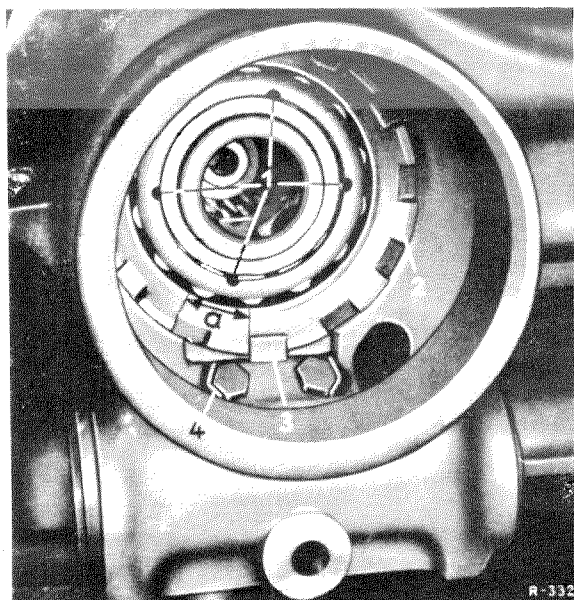

Fig. 35 — 4/24
68. Remove the two snap rings (15) for the outer race of the cylindrical roller bearing (2) and drive out the race with Assembly Arbor 120 589 00 39 (see Fig. 35—4/26).